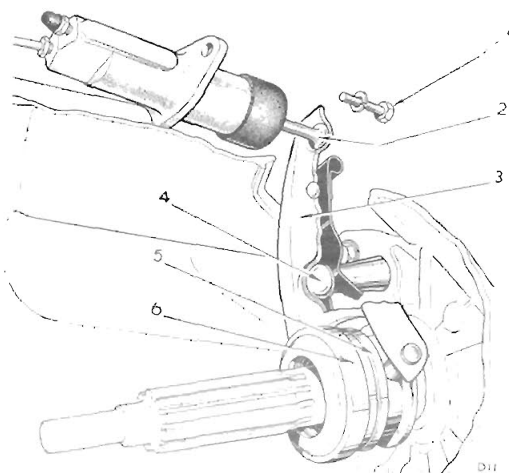

Fig. 9. Clutch release lever attachment (Vitesse)
Referring to Fig. 9 for Vitesse vehicles:— remove the slave cylinder attachment bolts (1) and move the push rod (2) clear of the release lever (3). Unclip the lever from its spherical pivot pin (4), withdraw the bearing sleeve (5) and take off the bearing (6).